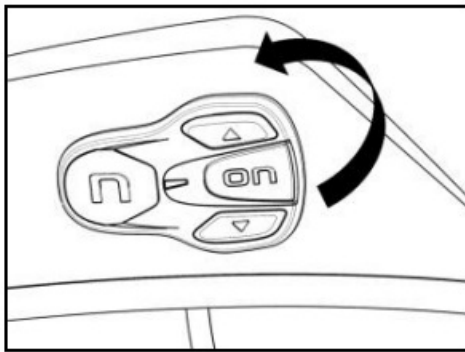

Fig. 48
- Remove the keypad from the helmet shell (Fig. 48).